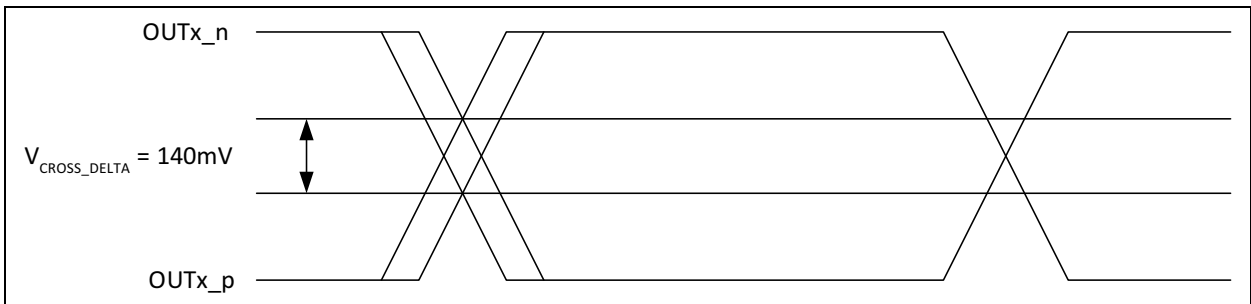

FIGURE 1-2: Single-Ended Measurement Points for Delta Cross Point.
- 6: Defined as the total variation of all crossing voltages of Rising $OUTx_p$ and Falling $OUTx_n$. This is the maximum allowed variance in V_{CROSS} for any particular system. See Figure 1-2.